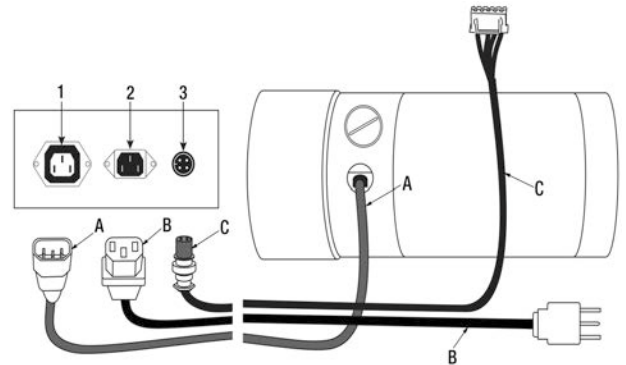
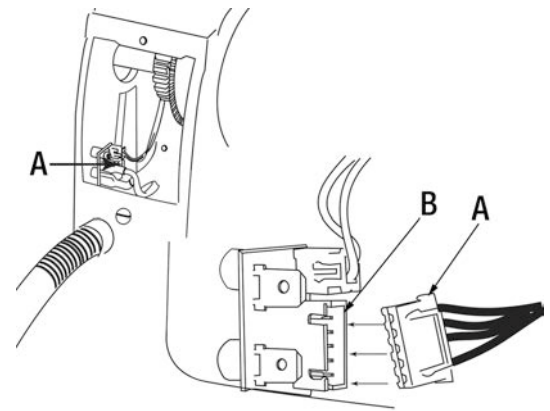

FIGURE 8
FIGURE 9
1. Make sure the motor cord (A) Fig.8 is connected to the switch box motor cord connector (1).
2. Make sure the power cord (B) Fig.8 is connected to the switch box power cord connector (2).
3. Make sure the variable speed input connector (C) is connected to the switch box speed input connector (3).
4. Connect the variable speed input connector (C) Fig.8 and (A) Fig.9 to the connector (B) Fig.9 found inside the headstock.